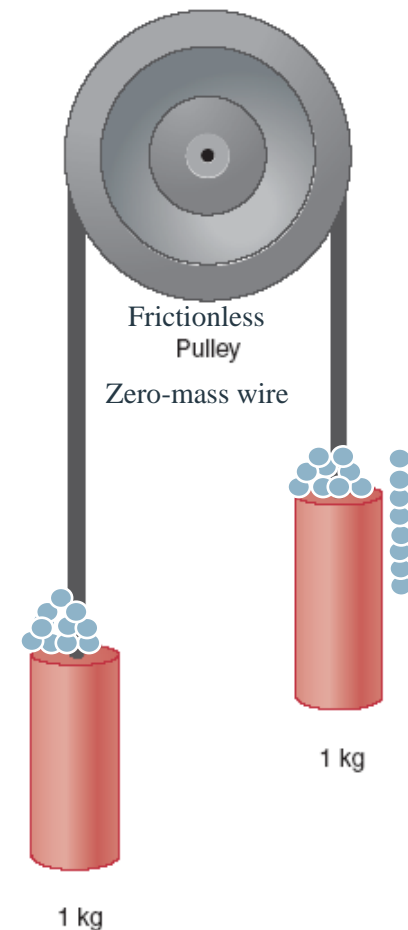

Fig. 2.13 *Illustration of reversible process.*
- Figure 2.13 explains reversible and irreversible processes. As the two masses have the same value the net force acting on each end of the wire is zero, and the masses will not move. If an additional mass is placed on either of the two masses, the system is no longer in mechanical equilibrium, and the masses will move.